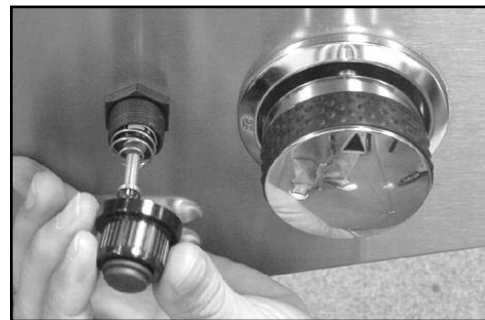

Fig. 15
5. Screw igniter cap onto igniter. (See Fig. 15)